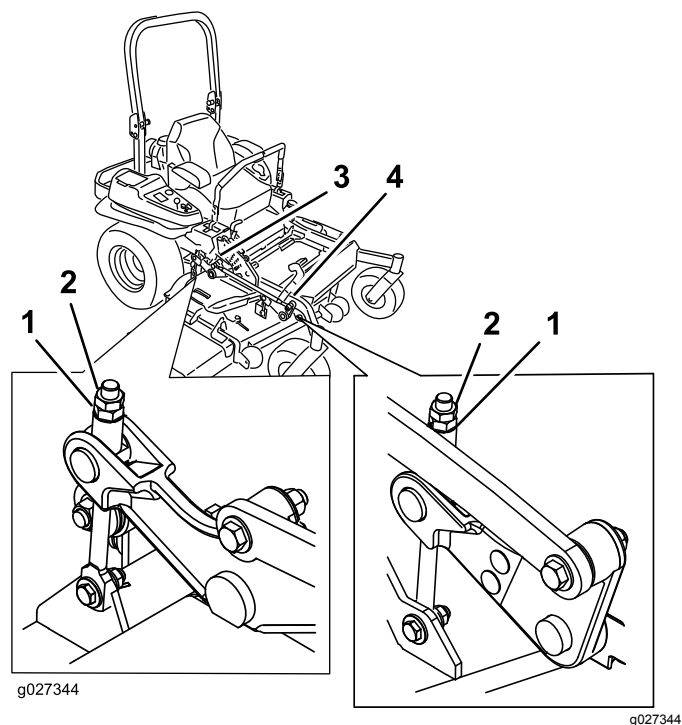

Figure 108
10. Fine-tune the adjustment nut on the front deck-lift assembly by turning it (Figure 108).
16. Fine tune the screw adjuster by turning it to get 8.3 mm (3-1/4 inches) height (Figure 108).